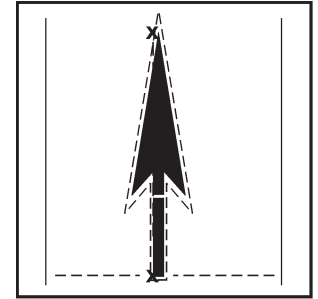

Figure 49
- Lay out the next two sections of the arrow (liner still on) on top of the base. Mark around the entire arrow with grease chalk or keel (see Figure 49).
- After the surface preparation adhesive is set, remove the liner from the base of the arrow and carefully lay it down using the marks made in Step 5 as a guide (see Figure 49).